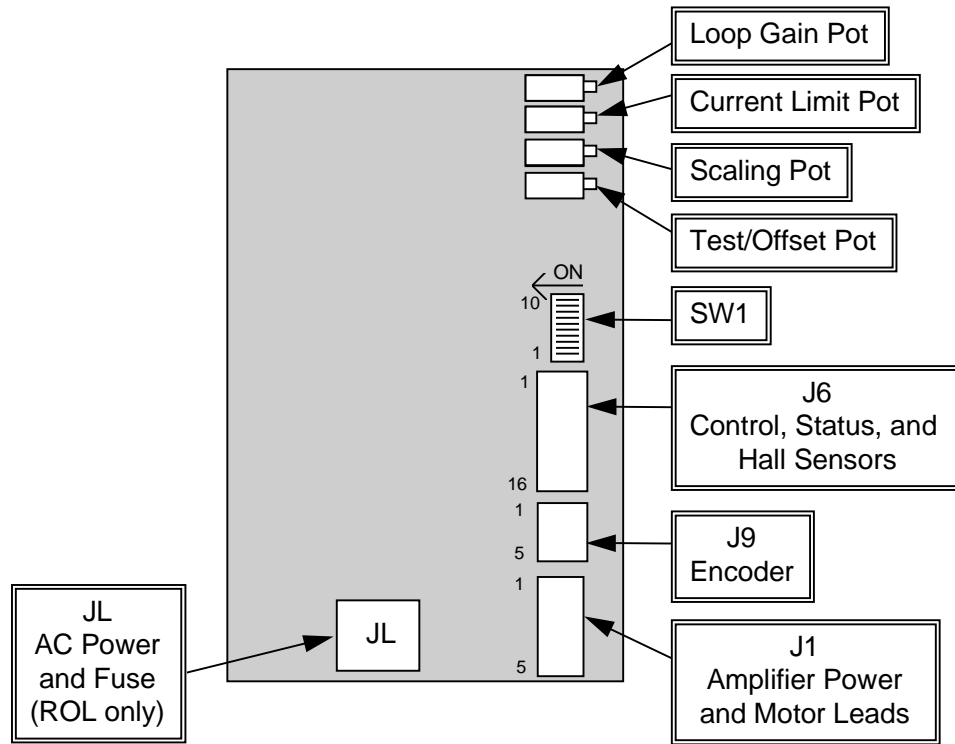

Figure 2.3 RO(L) Connector Layout--Main PCB
Refer to Figure 2.3 (page 18) for an overview of all RO(L) connectors.